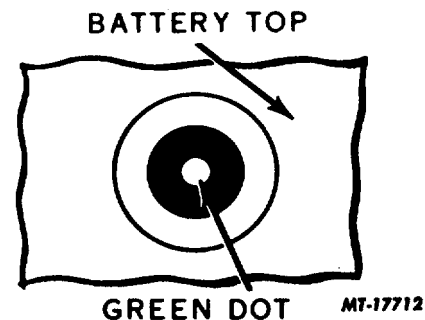

Fig. 2 Test Indicator Green Dot Visible
1. GREEN DOT VISIBLE (Figure 2)
- a. Green Dot Visible (Figure 2)